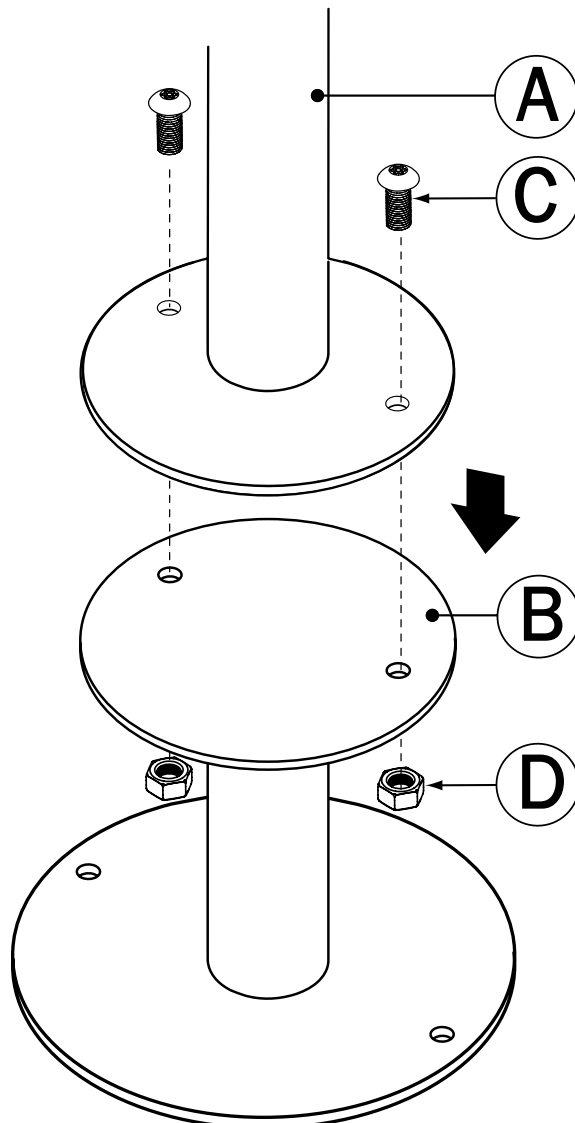

Figure 1.
2. Connect Footer(B) to Lower Post(A) using (2) Bolts(C) and (2) Lock Nuts(D). See Figure 1.
**NOTE: 8" Footer(B) shown in illustration.